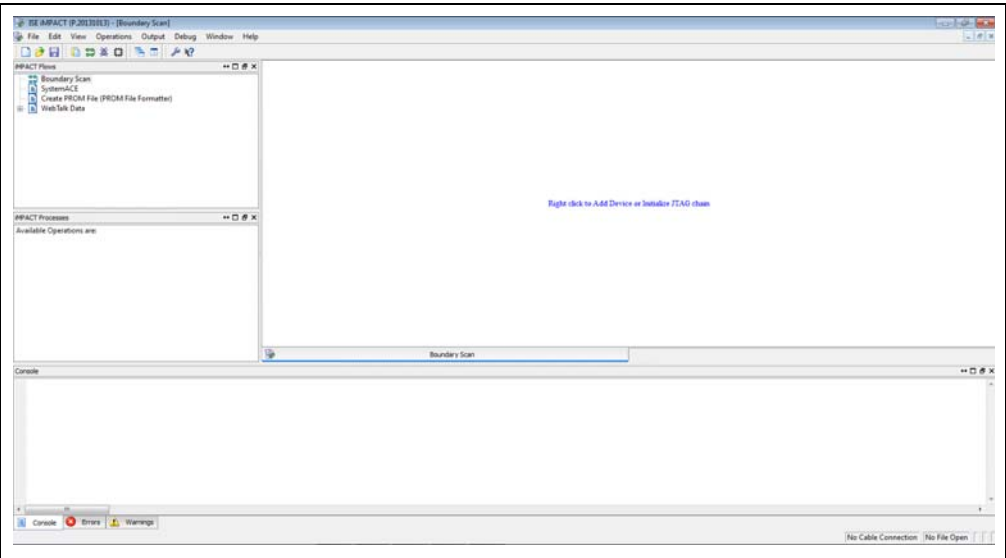

FIGURE 4-2: iMPACT Window.
- 2. The window in Figure 4-2 will appear.
- 3. Left click on “Boundary Scan” as shown in Figure 4-2.